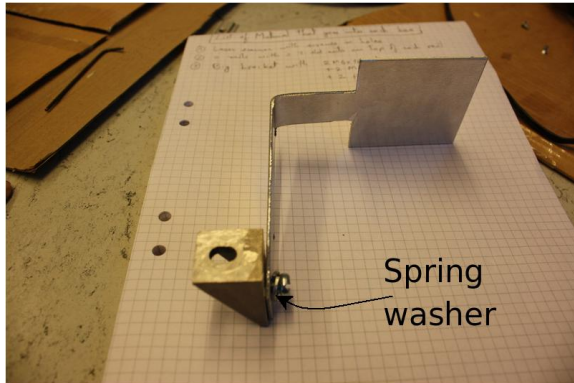
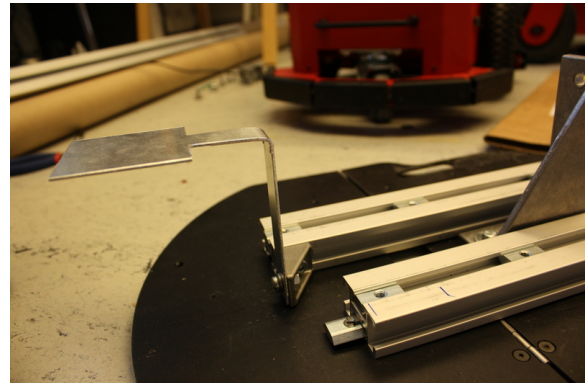
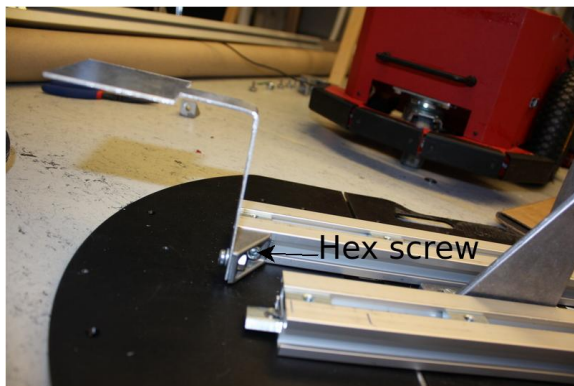

Figure 9: Laser protector assembly
Figure 10: Slide right rail back to get better access for mounting
Figure 11: Laser protector mounting
4. Mount the laser protector on the **long** side of the small bracket using a **spring washer**, a M6x12 **slot screw** (screw with a slot in its head for a screwdriver) and a normal M6 nut (figure 9). Thoroughly tighten this assembly right now! Then slide the right rail (as seen from robot front) back (figure 10) and fix the small bracket to the left rail (there will be a T-nut in place already), using a M6 **hex socket head screw** (figure 11). This type of screw will allow you to later remove the laser protector with a L-hex key without sliding the right